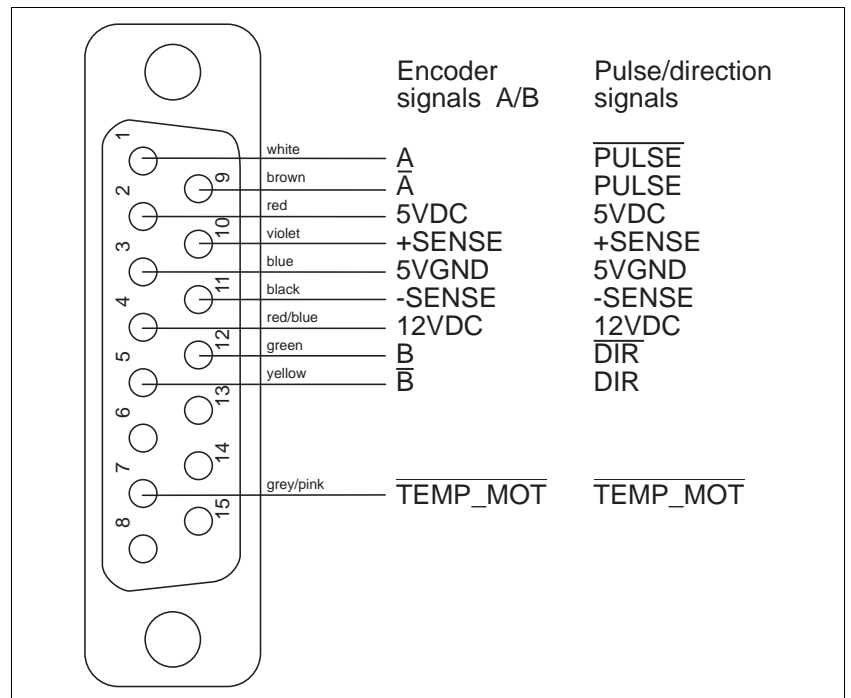

Fig. 2-18 Encoder connector – device end
1. Solder the litz wires to the connector as illustrated in fig. 2-18.